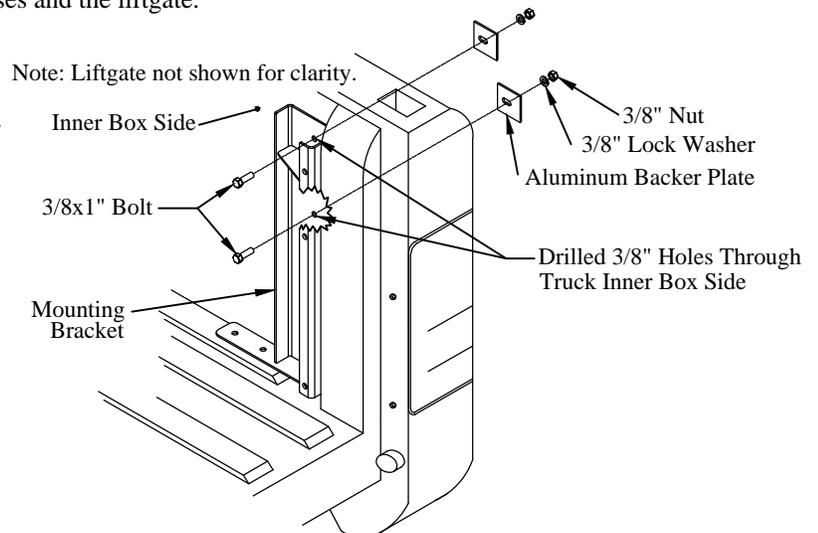

Figure 12: Mounting bracket and backer plates.
- (2) backer plates, (2) lock washers, and (2) hex nuts on the under-side.
10. **Drill** two (2) 3/8" holes into the truck inner box side using two holes in the bracket as a guide (Figure 12).
11. **Fasten** each bracket to the truck inner box side using the supplied (Figure 12):